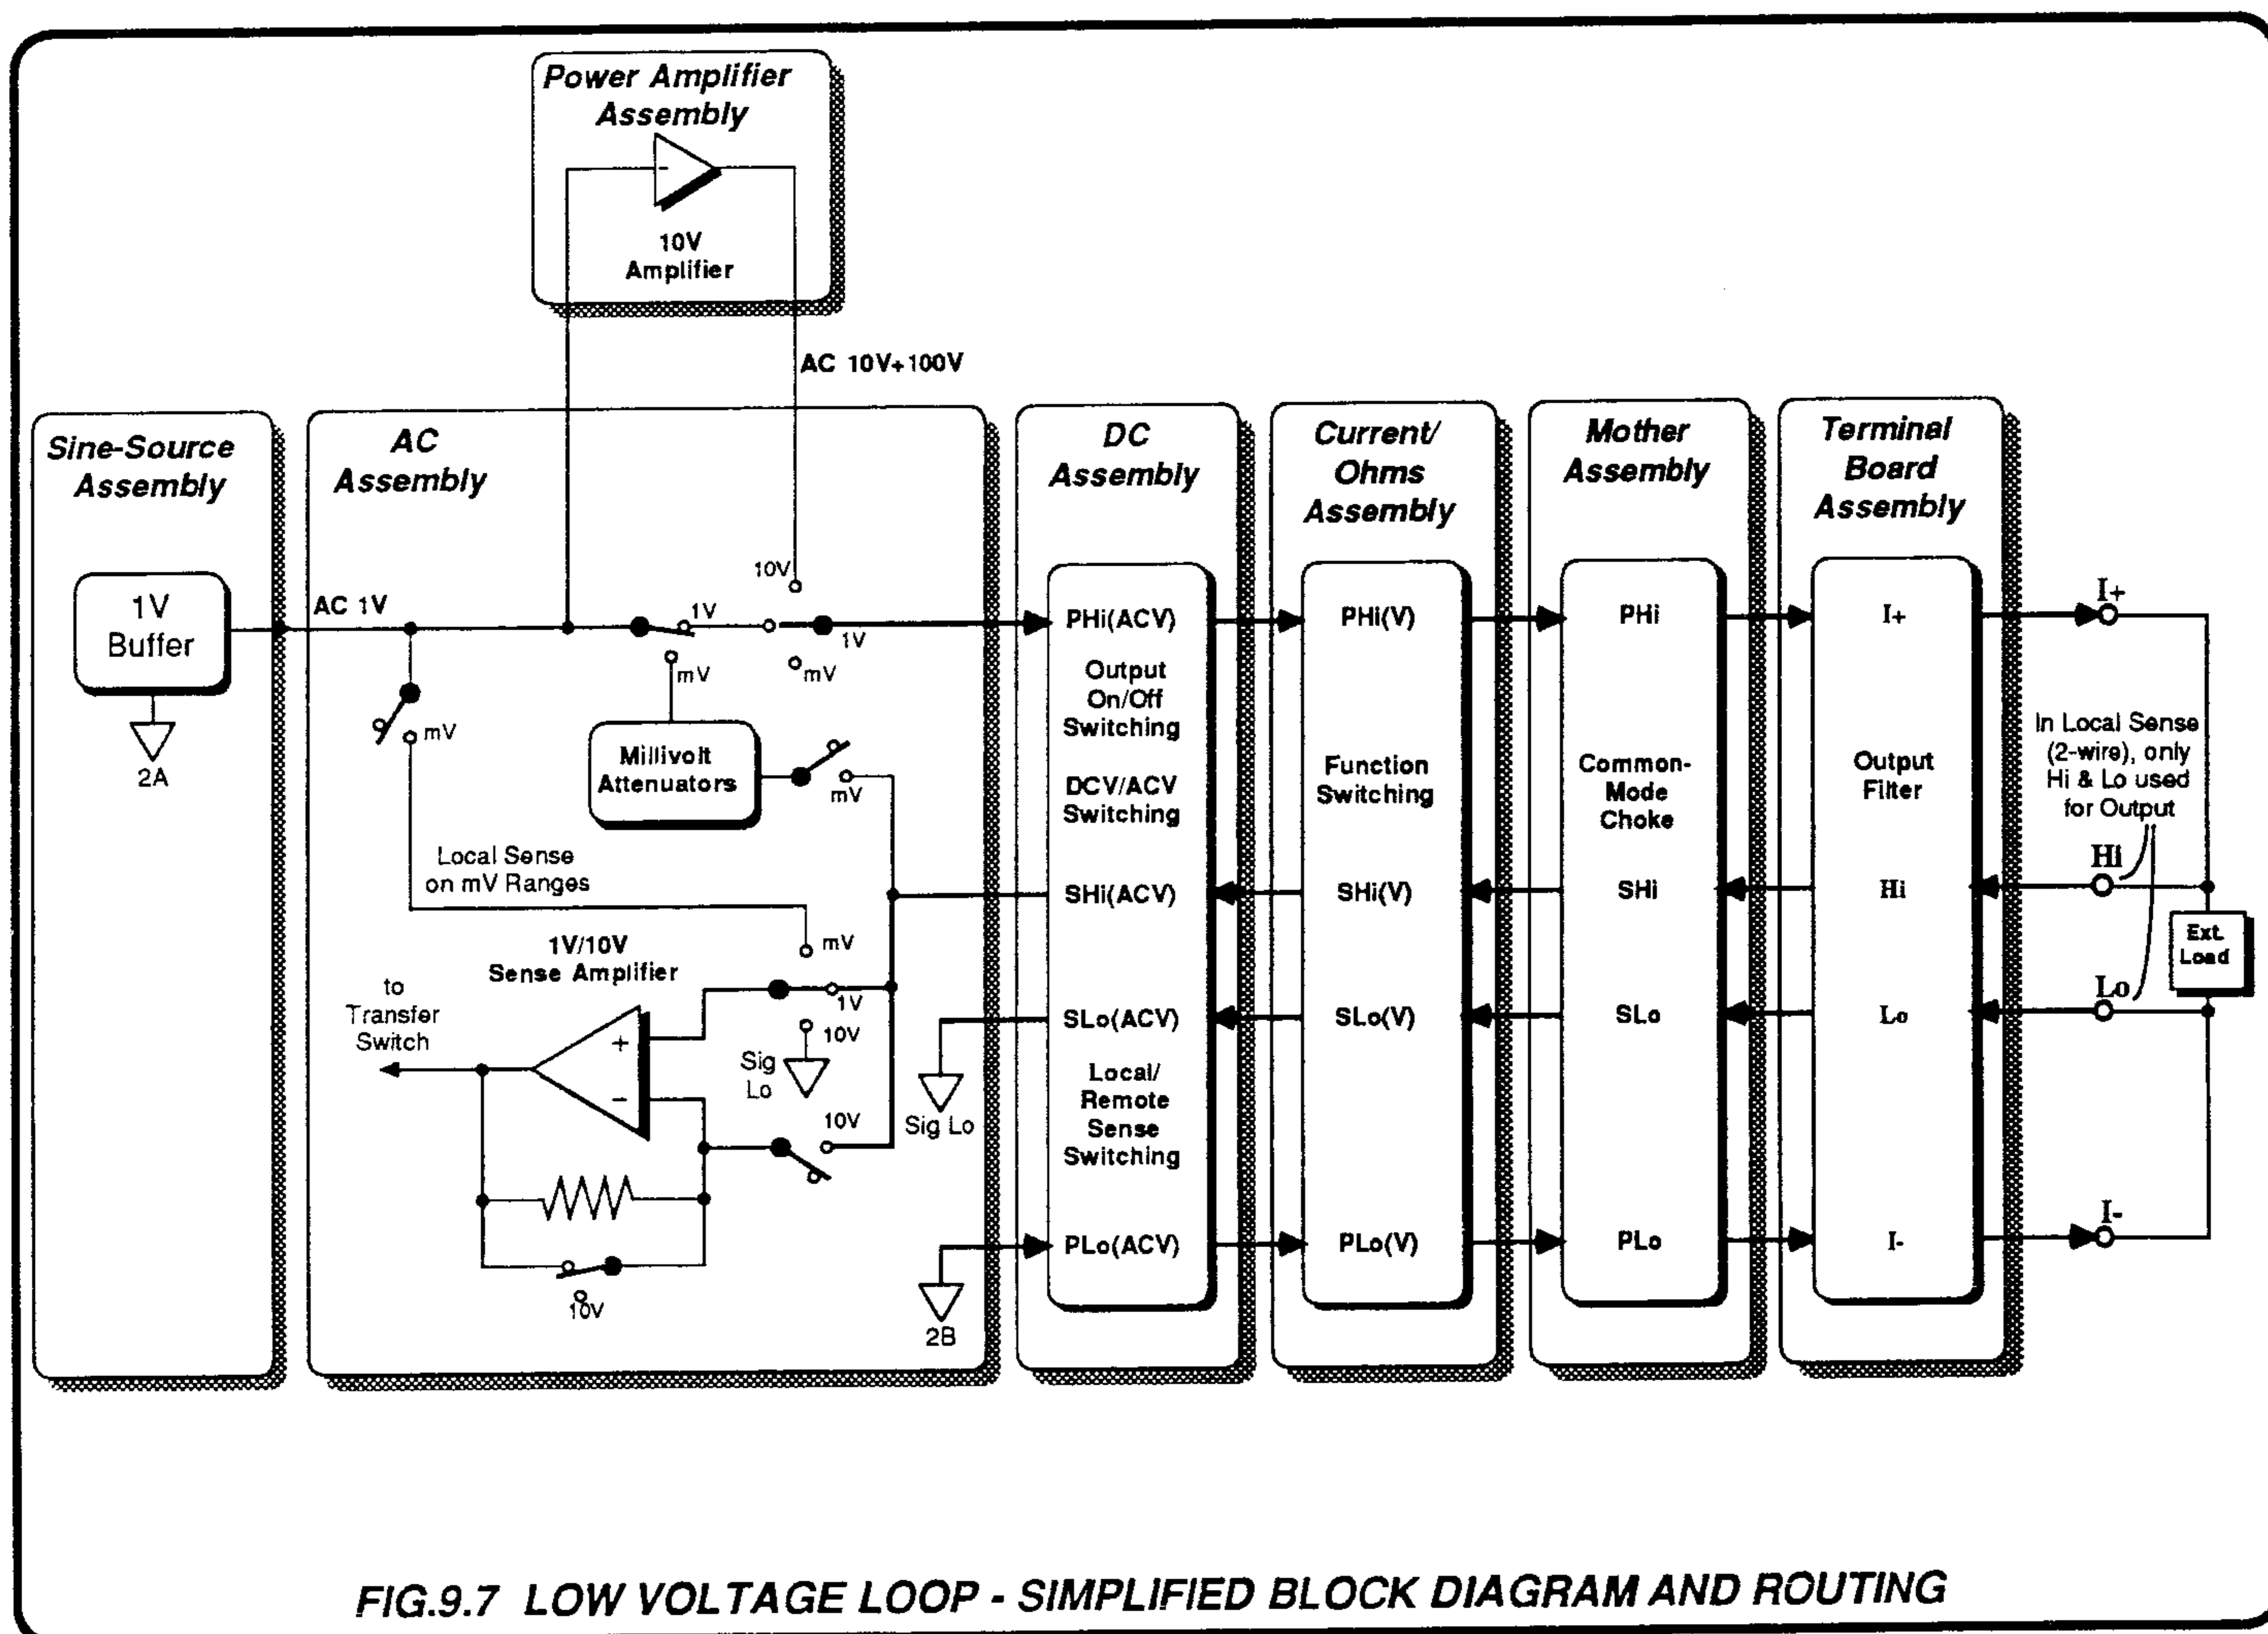

FIG.9.7 LOW VOLTAGE LOOP - SIMPLIFIED BLOCK DIAGRAM AND ROUTING
- Switch the generated 10V range to the model 4600 analog control bus, as described in section 7.3.8. For clarity, these connections have been omitted from Fig 9.7
A simplified block diagram of the low voltage loop and routing appears in Fig. 9.7.